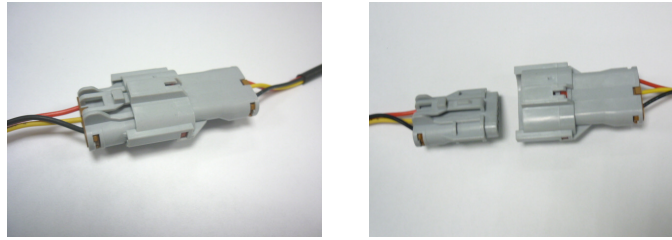

Figure 9.1.3: Disconnects the power cables of the cooling fan
- C) After cooling fan is already lifted out, disconnect the power cable of the cooling fan as shown in Figure 9.1.3.